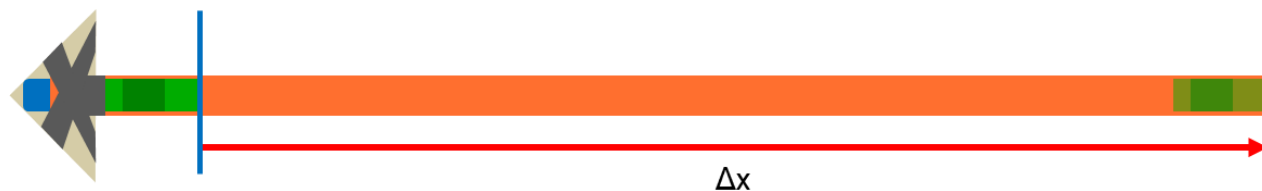

Fig. 4: Length Measurement from the front of the car to the end of the track. This is the distance (Δx) the car will travel along the track.
5. Next, measure the length of the track. The length we need is the distance, Δx , the car will travel along the track. To do this, lay the track on a flat surface with the back of the car against the tape you added in Fig. 3a. Then measure from the front of the car (starting point) to the end of the track (see Fig. 4). Record Δx in meters.